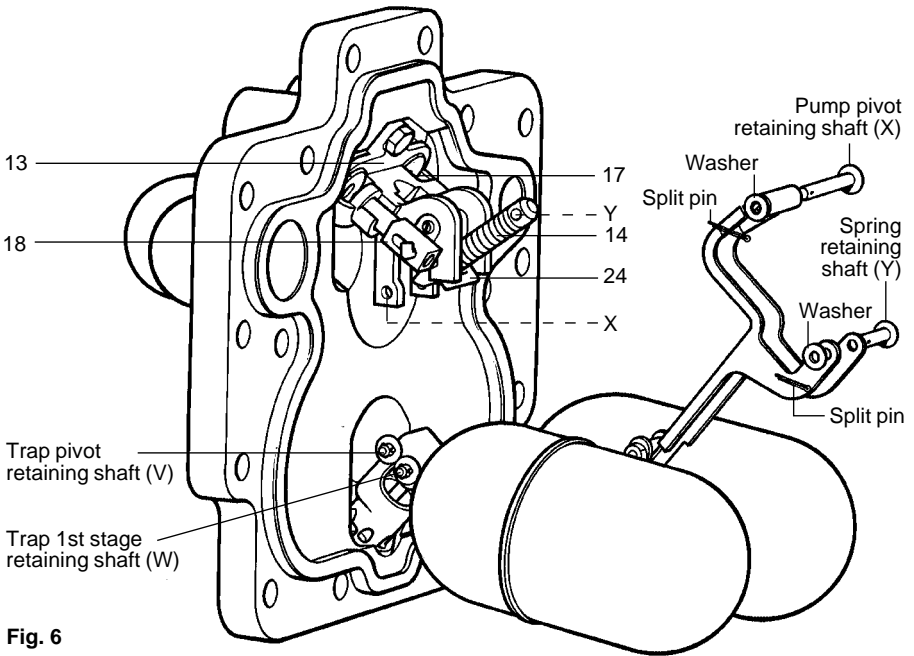
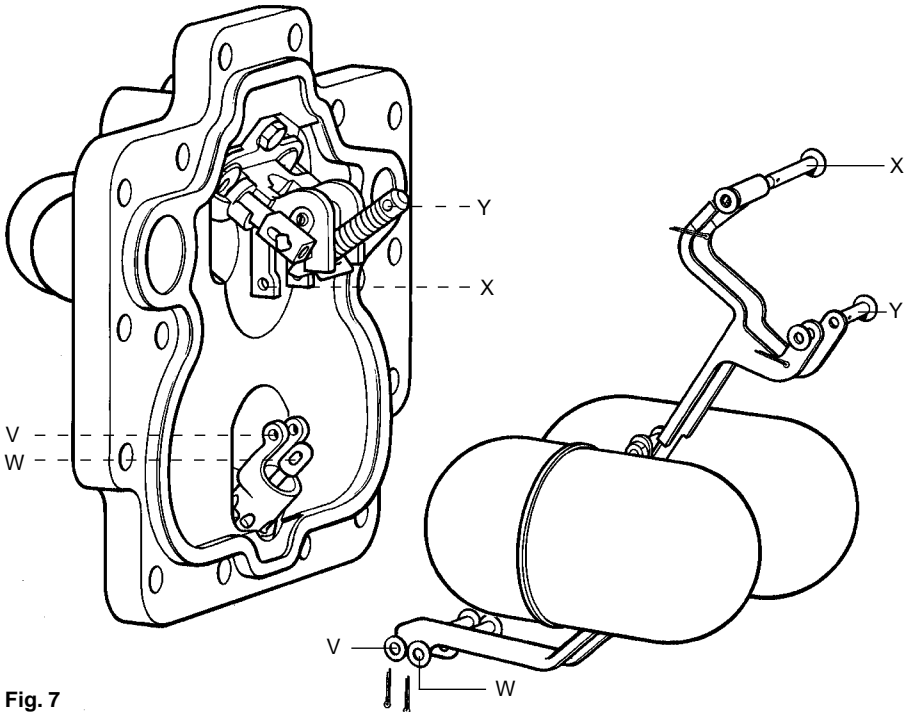

Fig. 6
Fig. 7
3. Remove a split pin and washer from one side of the spring retaining shaft (Y) (See Fig. 6).
4. Remove a split pin and washer from one side of pump pivot retaining shaft (X).
5. Carefully slide the shafts out from their respective positions observing the orientation of the spring and actuator arm (item 14, 24) within the pump bracket (item 13) as these will need to be refitted later.
6. Remove a split pin and washer from one side of the trap 1st stage valve retaining shaft (W).
7. Remove a split pin and washer from one side of the trap pivot retaining shaft (V).
10. It is easier to fit the replacement shafts in the following sequence:- (See Fig. 7).